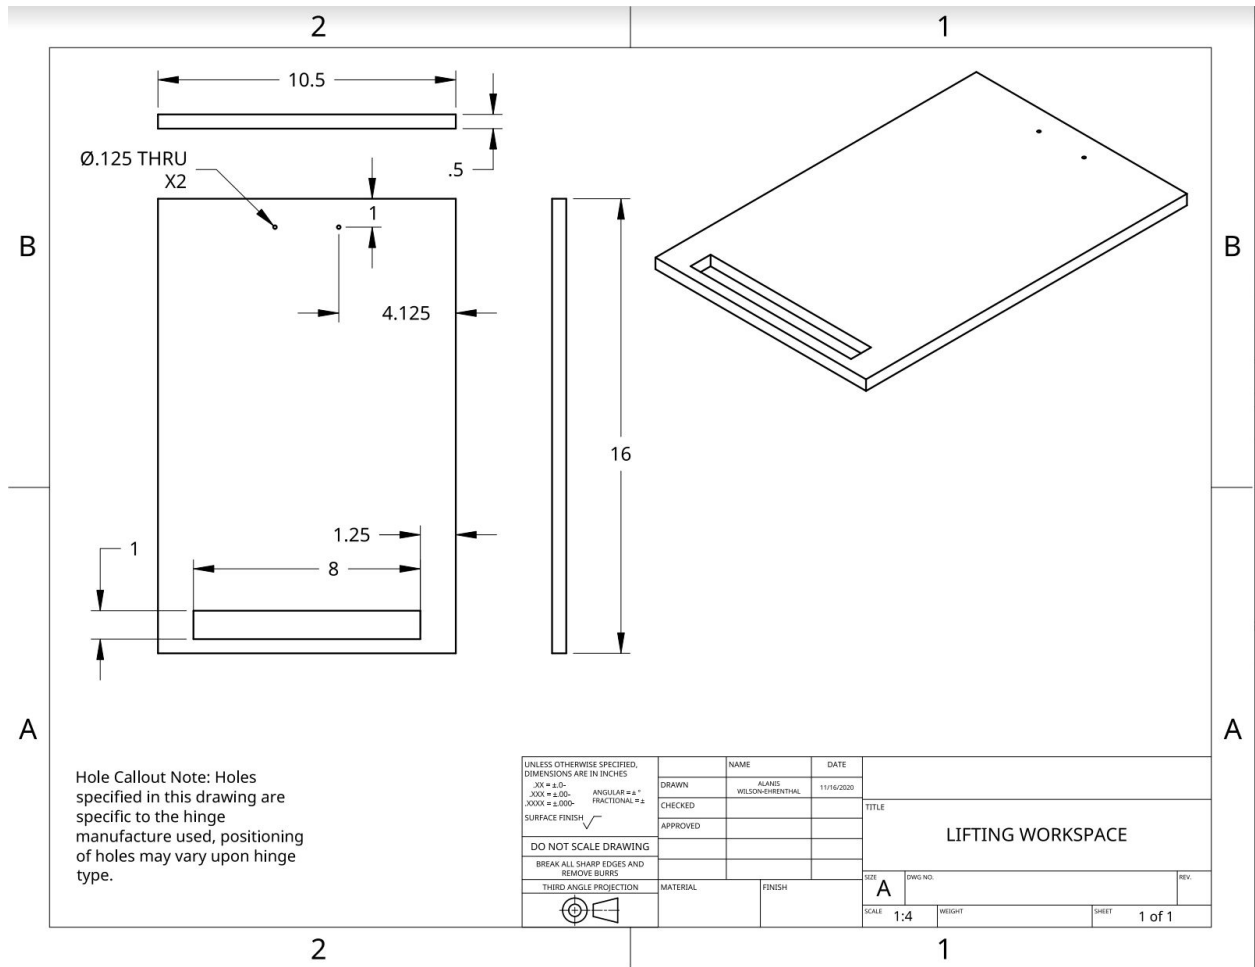

Figure 3
4. Cut 10.5" × 16" section of MDF for Workspace (Figure 3)
6. Mill 1" × 8" handle slot for Workspace (Figure 3)
7. On the Workspace, drill two holes through the board at the specified positions (Figure 3)